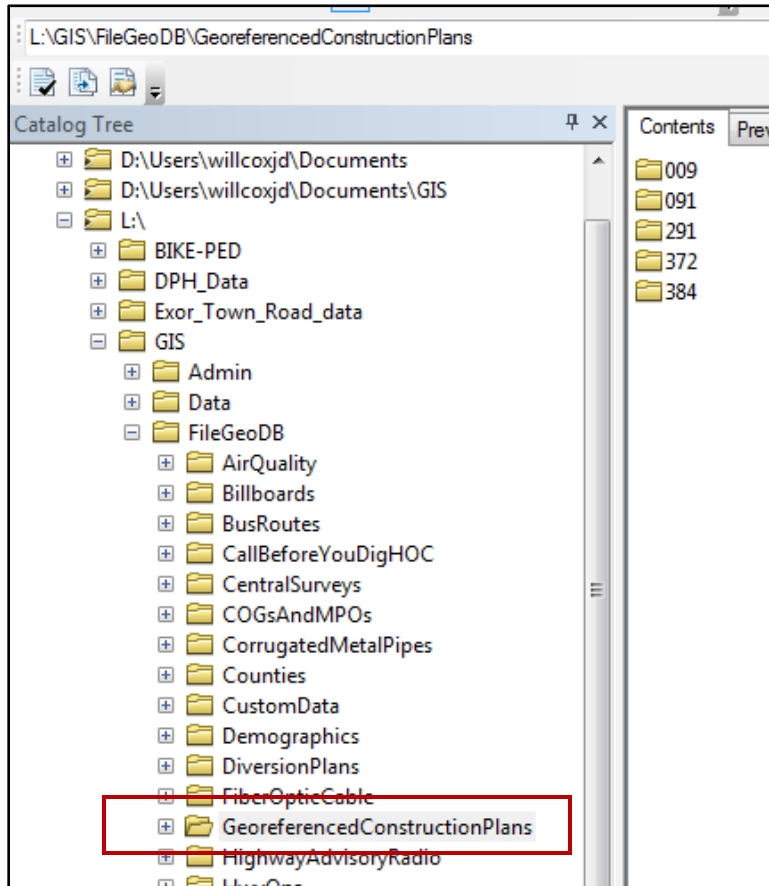

Figure 22. Georeferenced Construction Plan folder on L:Drive.
- Then go to File → Save as a TIFF. Save in the L: Drive under the GeoreferencedConstructionPlans folder (shown in Figure 22, below).